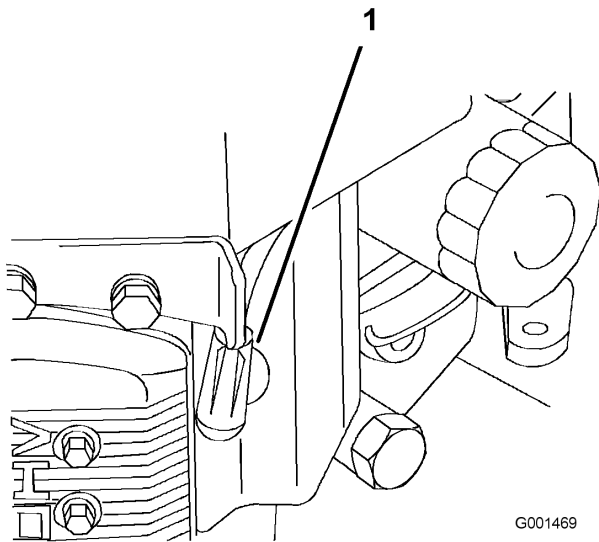

Figure 29
3. Disconnect the wires from the spark plugs (Figure 29).